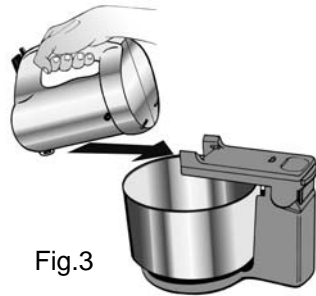

Fig.3
- Hold the power mixer in your right hand at an angle. Slide it from left to right securing the two tabs on the stand into the two slots on the power mixer. (Fig. 3)